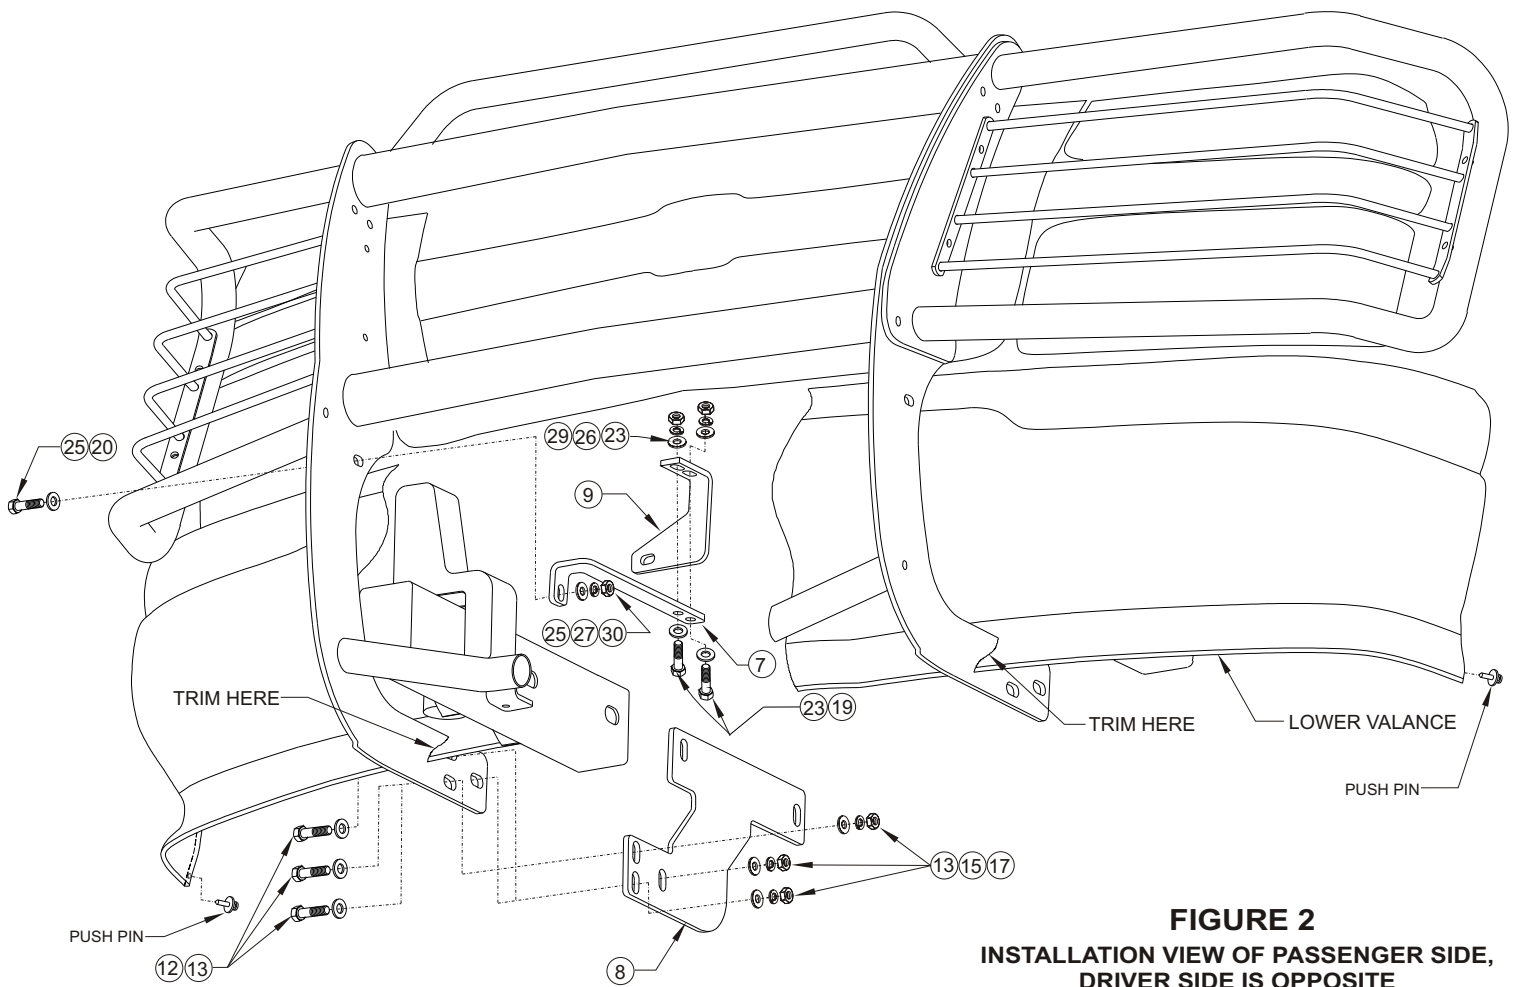

FIGURE 2
- STEP 5. Determine passenger and driver uprights, hood-bar top-tube assy., center and bottom tubes. **NOTE:** Uprights are positioned so raised side of bolt holes are facing each other. **SEE FIGURE 2.**
- STEP 9. If lower valance is to be installed, reinstall it now. Mark the valance at the outside of both of the bottom brackets. Cut a 1/2" slot from the bottom of the valance up to where it meets the bumper. Position the Sportsman up to the vehicle and secure to bottom brackets using 1/2" fasteners. Secure support braces to uprights using 3/8" fasteners as shown. **SEE FIGURE 2**